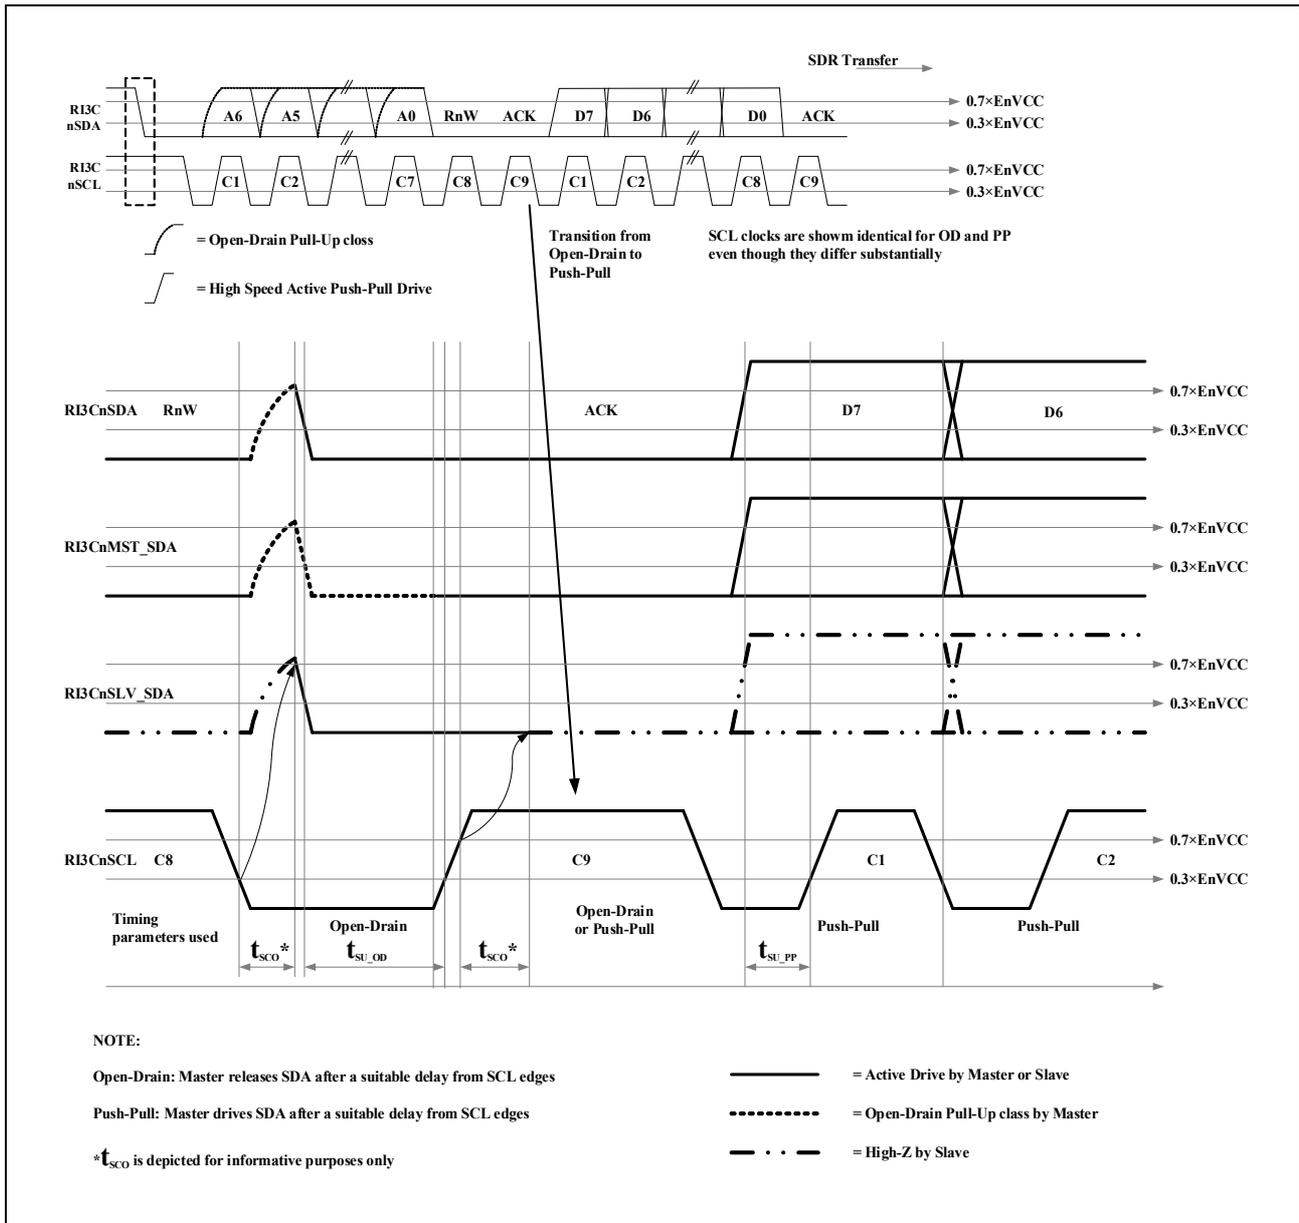
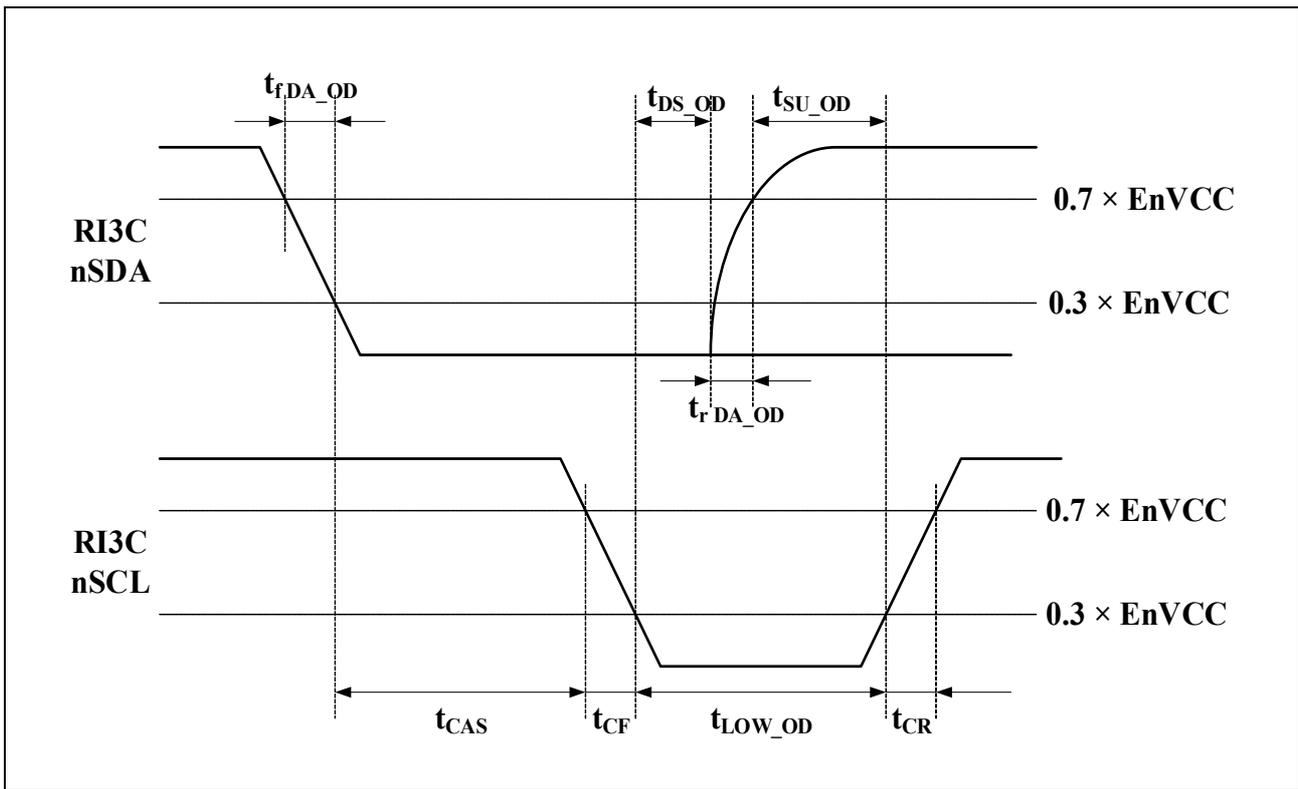

Figure 3.42 I3C Data Transfer – ACK by Slave
Figure 3.43 I3C START condition Timing
| RI3CnSCL Clock Low Period | $t_{LOW_OD}^{*1*2}$ | Figure 3.43 | 200 | | | ns |
| | $t_{DIG_OD_L}$ | Figure 3.43 | $t_{LOW_ODmin} + t_{rDA_OD_min}$ | | | ns |
| RI3CnSDA Signal Fall Time | t_{rDA_OD} | Figure 3.43 | t_{CF} | | 12 | ns |
| RI3CnSDA Data Setup Time Open Drain Mode | $t_{SU_OD}^{*1}$ | Figure 3.42 Figure 3.43 | 3 | | | ns |
| Clock After START (S) Condition | t_{CAS}^{*5*6} | Figure 3.43 | 38.4 | | For ENAS0: 1 μ | seconds |